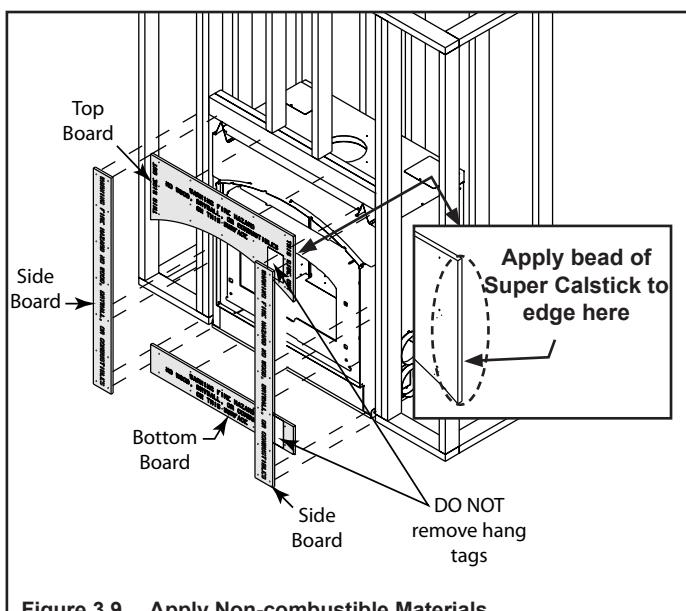

Figure 3.9 Apply Non-combustible Materials
- Using the Super Calstick, run a light bead (1/8 in. minimum) between the metal surface of the fireplace and the butt edges of the top board. See Figure 3.9.